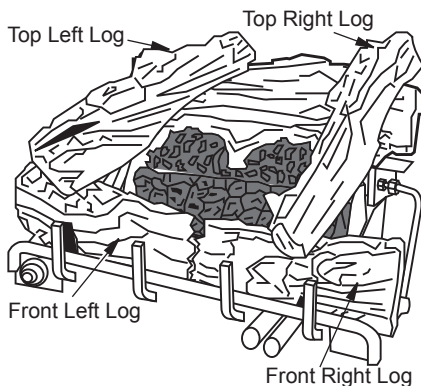

Figure 26 - Installing Logs
4. Place top left log as shown in Figure 26. The bottom of the log is shaped to fit into the recessed areas of the front left log and the rear log. The recessed areas are painted yellow.
5. Place top right log as shown in Figure 26. The bottom of the log is shaped to fit into the recessed areas of the front right log and the rear log. The recessed areas are painted yellow.